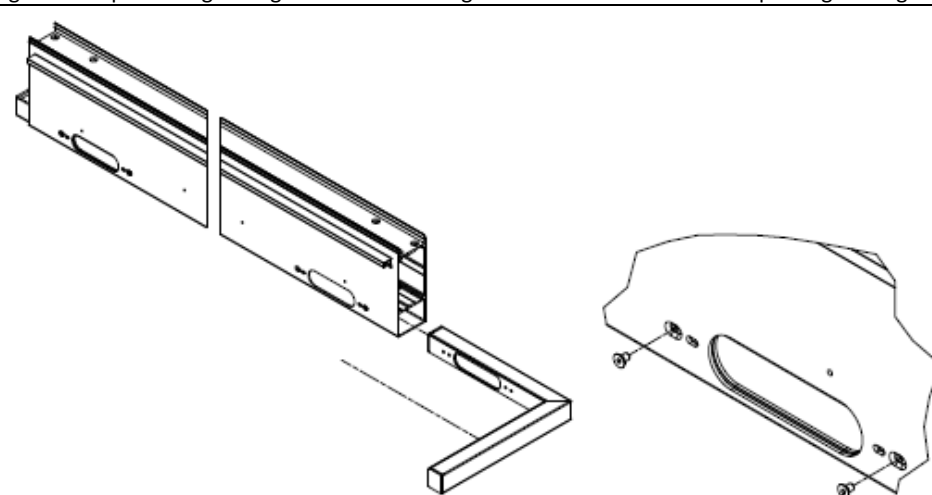

Figure 19
2. When placing the overflow avoid abrasion of the sealing layer and apply EPDM to the beam wall only after aligning the contours of the holes. Tighten with 2 countersunk screws M5x8 (in external oval holes with deepening) (fig.19).
7. When inserting the profile avoid abrasion of the sealing layer and apply EPDM to the beam wall only after aligning the contours of the holes. Tighten with 2 countersunk screws M5x8 (in external oval holes with deepening) (fig.19).
17. When inserting the profile avoid abrasion of the sealing layer and apply EPDM to the beam wall only after aligning the contours of the holes. Tighten the overflow with 2 countersunk screws M5x8 (in external oval holes with deepening) (fig. 19-right).